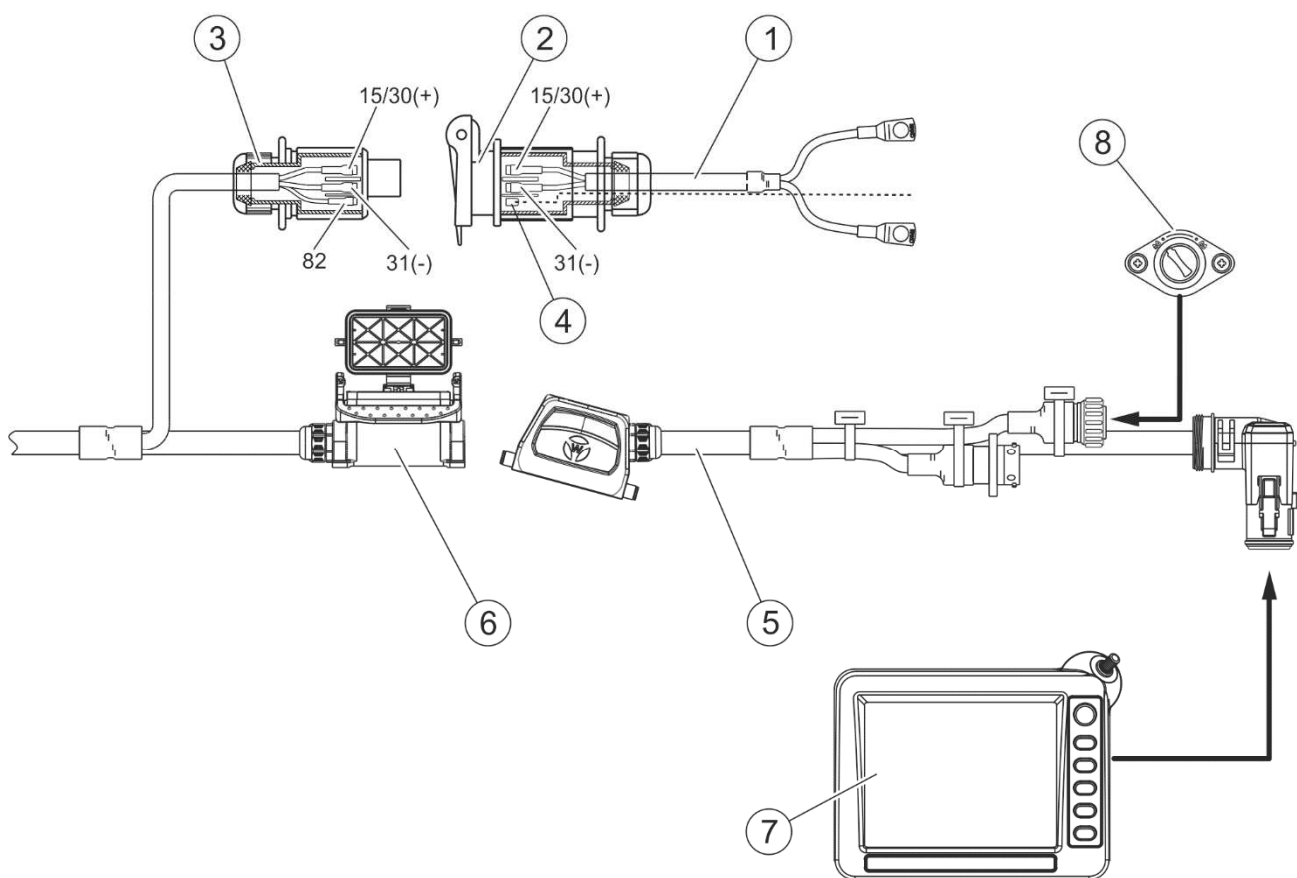

FIGURE 4.12 Connecting the electrical system
- Connect the leads of the power supply wiring harness (1) equipped with a 3-pin socket (2) to the carrying vehicle's battery (24V). Connect the red lead to the positive end of the vehicle's battery (+) and the black lead to the negative battery end (-) (FIGURE 4.12).
- The vehicle travelling speed signal should be fed to the contact (4) in the 3-pin socket (2) (FIGURE 4.12).
- Connect the plug (3) to the socket (2) of the power supply wiring harness (1). Contact 82 of the plug must be connected to the vehicle travelling speed signal contact (4) (FIGURE 4.12).
- Connect the control panel's main switch (8) to the connector in the wiring harness of the display (5) (if it is not connected) (FIGURE 4.12).
- Connect the control panel (7) to the wiring harness connector (5) (FIGURE 4.12).
- Connect the wiring harness of the display (5) terminated with the 10-pin connector to the 10-pin socket (6) of the sand spreader's wiring harness (FIGURE 4.12).